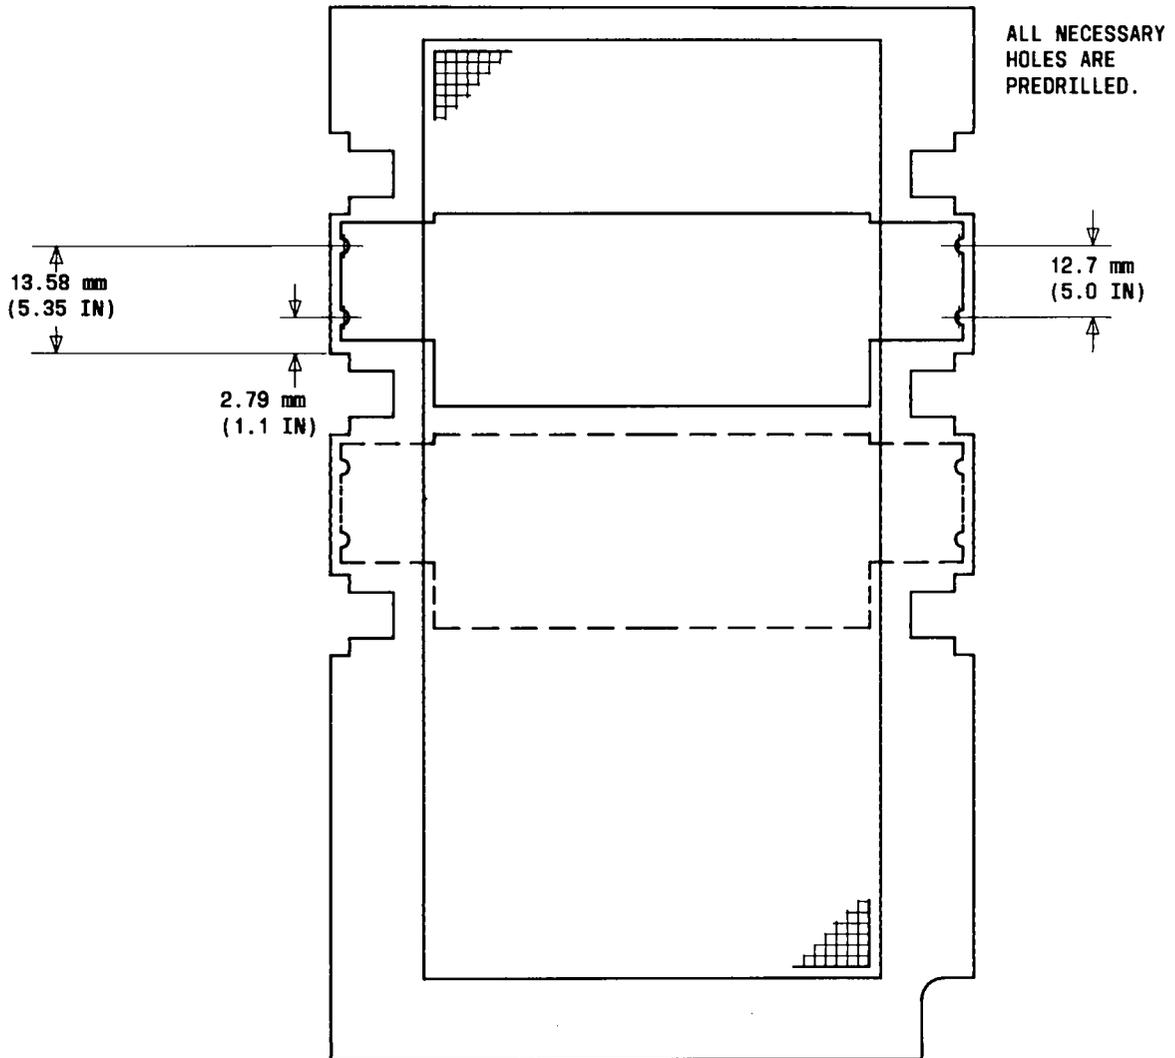

Fig. 60—EMI Filter Assemblies Mounted on Rear Panel of PBX Cabinets
**12.16** Noise in cable pairs is corrected by installing an electromagnetic interference (EMI) filter assembly per ED-1E403. Mounting holes for the filter assembly are predrilled (Fig. 60). The mounting assembly has capacity for ten 1513A filter assemblies. A Group 3 assembly consists of one EMI filter mounting panel and one filter cover. The EMI filter assemblies (Group 2) must be added to the Group 3 assembly. Each Group 2 filter assembly consists of one EMI filter assembly and one connecting cable (ED-1E367, Group 935).